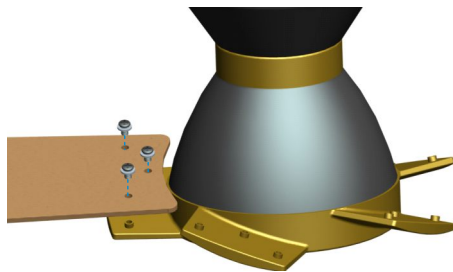

Fig 7.1
7.1 Locate 15 blade attachment screws in the hardware pack. Make sure the screw holes on each fan blade matches the corresponding holes on the blade bracket and tighten the blade screws as shown in Fig 7.1.